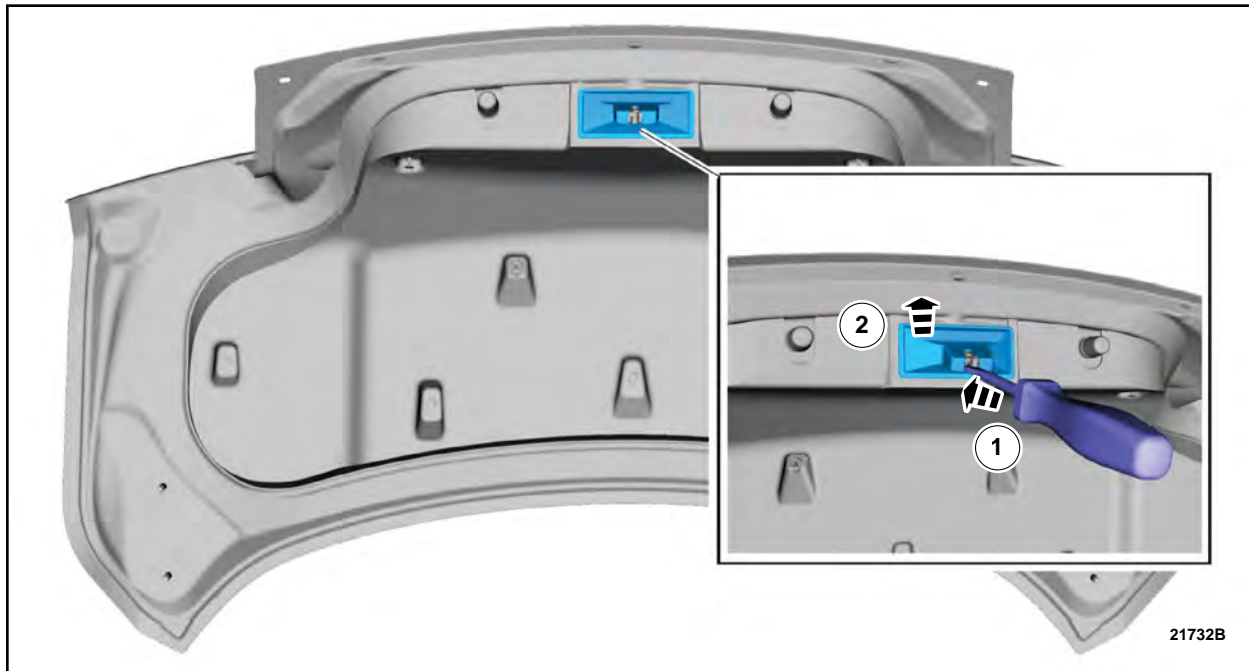

**FIGURE 28**
40. Remove the luggage compartment lid emergency release handle. See Figure 28.